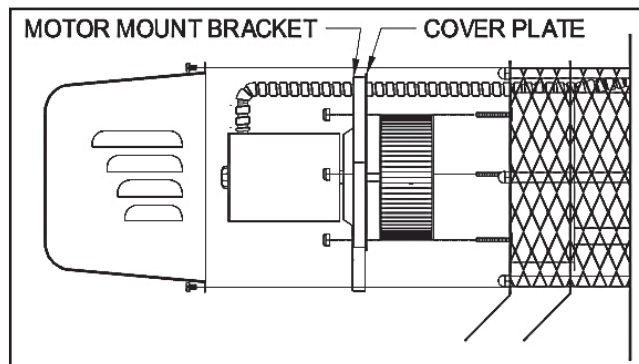

Figure 3
3. Remove the nuts securing the motor assembly, and pull the motor assembly straight off of the unit. (See Figure 3)
1. Align the holes in the circular cover plate with the holes in the motor mount bracket on the motor assembly. (See Figure 3)
2. Slide the motor assembly onto the protruding threaded studs on the power venter body with the exhaust chute pointing downward, and replace the nuts securely to the threaded studs. (See Figure 3)